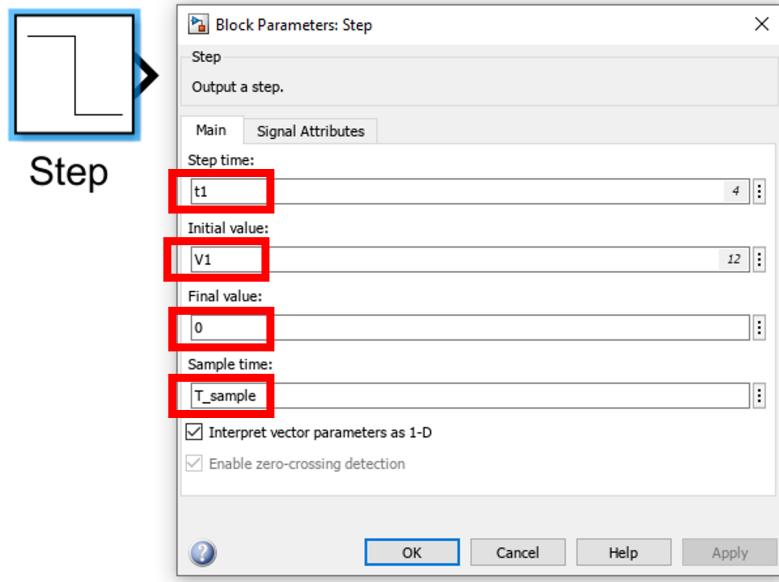

Figure 5: Step function
1. Get the Step source block and update all the parameters as in Figure 5.